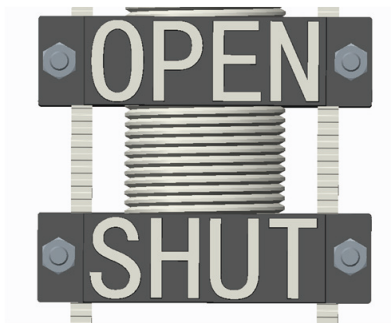

Figure 6
- Adjust the distance (number of teeth) between SHUT and OPEN, as shown in Figure 6, to ensure that the two "SHUT" planes are evenly located on both sides of the target frame. See Table 3 for specific specifications and the number of teeth.